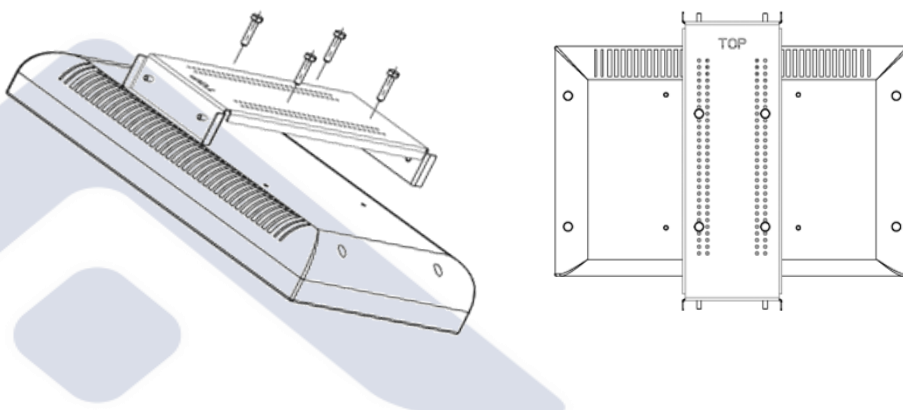

Figure3
- STEP 7: For a balanced unit, align the LCD mounting bracket alongside the VESA display fixtures, evenly position then fasten (Figure3)